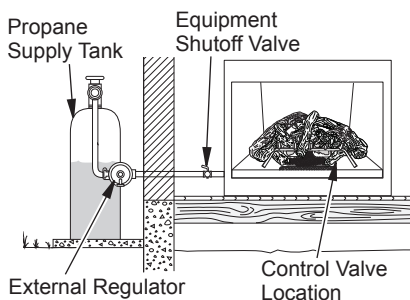

Figure 14 - Checking Gas Joints for Propane Gas
3. Check all joints from gas meter to equipment shutoff valve for natural gas or propane supply to equipment shutoff valve for propane (see Figure 14 or 15). Apply a noncorrosive leak detection fluid to all joints. Bubbles forming show a leak.
4. Check all joints from equipment shutoff valve to control valve (see Figure 14 or 15). Apply a noncorrosive leak detection fluid to all joints. Bubbles forming show a leak.